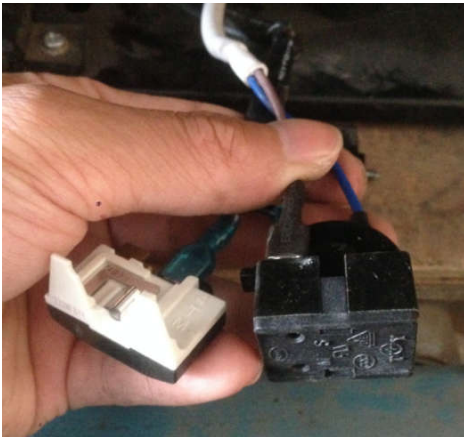

Figure 39
- 3. The compressor PTC starter and overload protector is pictured below. (figure 39)